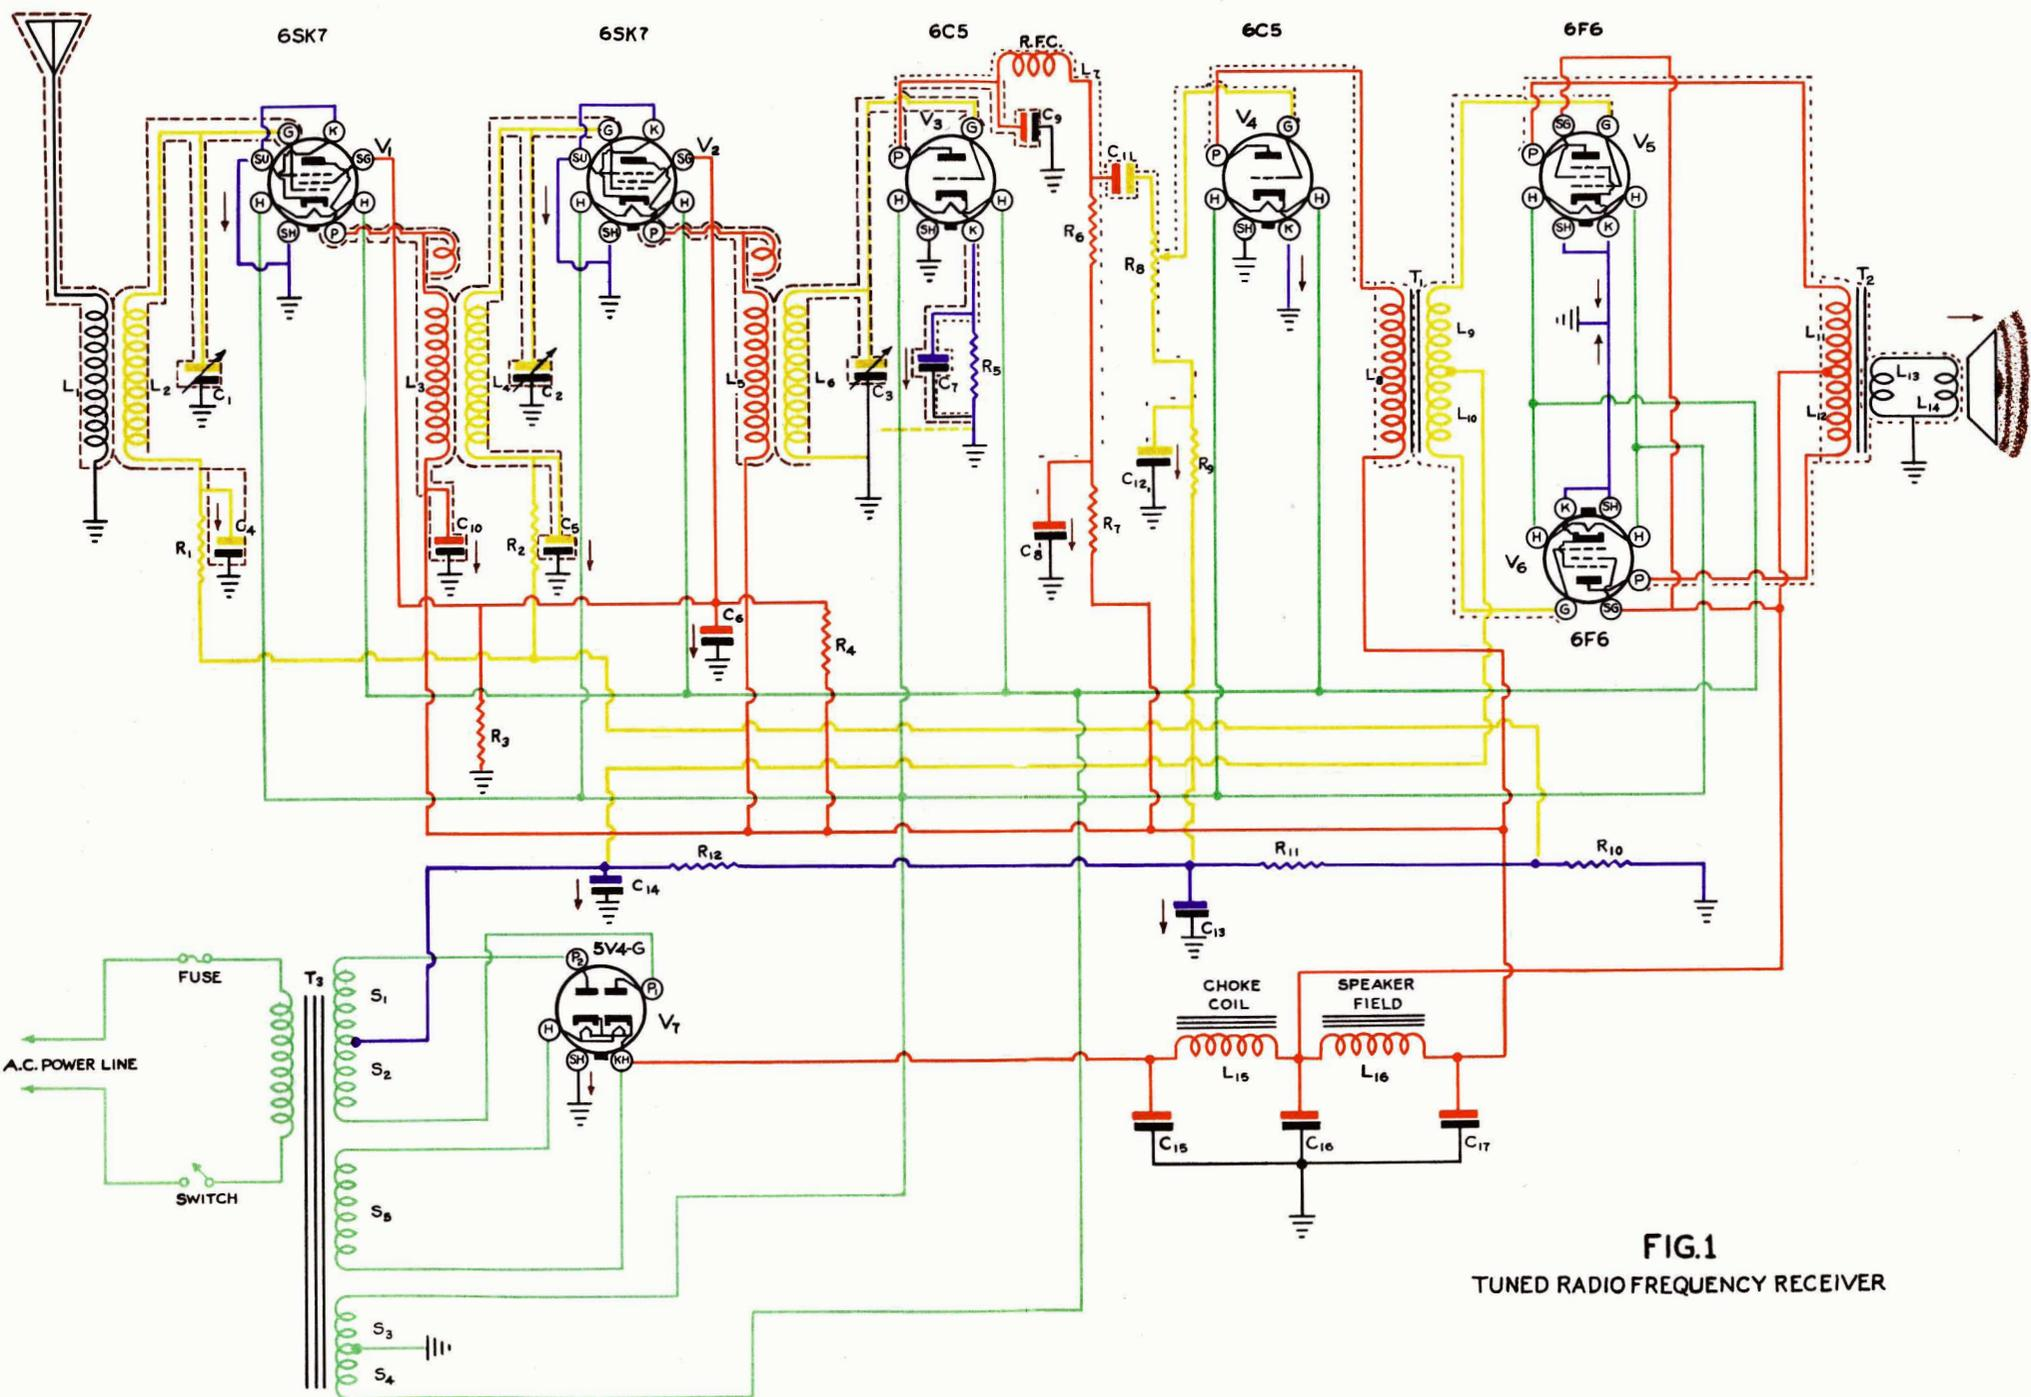
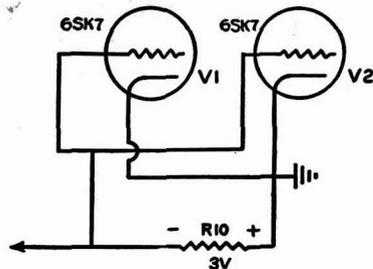
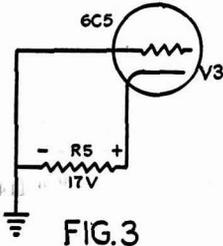

FIG.1
FIG. 2
FIG. 3
In any selective receiving circuit six elements are necessary. These are (1) an energy collector or antenna, (2) selective amplification of the R.F. carrier provided by the R.F. amplifier, (3) a detector to remove the R.F. carrier, (4) an audio frequency amplifier to build up the signal energy to operate a speaker, (5) a speaker to reproduce the sound and (6) a power supply to operate the various tubes of the system. All of these elements are included in the basic circuit shown in Fig. 1 in this lesson, and these are illustrated by use of a six color circuit.
in radio. So far as we know no other school has gone to the trouble and expense to provide this type of instruction for its students. The full and complete circuit is shown in Fig. 1 of this lesson which you will find in the center of the book, it being necessary to place it there because of the need for employing two full pages for its reproduction.
Since a multiple tube receiver must have a power supply the logical place to begin the study of the circuit of Fig. 1 is with the raw AC just as it is obtained from the power line. The power transformer T_3 , in Fig. 1, has a plug attached to its primary ends. This plug may be inserted into any 60 cycle power outlet such as is found in the usual home. In this way all operating voltages for the entire receiver are obtained. The leads of the primary include a switch and a fuse. The switch is operated by the control knob of the volume control R_8 . Thus, this control operates both switch and volume and this, incidentally, is more or less standard practice in the modern receiver of today. The fuse is included for the purpose of protecting the receiver from overloads and breakdowns of various receiver parts—it being much cheaper to replace a fuse than other more expensive parts in the receiver. For instance, condenser C_{15} may breakdown. This will form a short circuit across the output of the rectifier tube and may so overload it that the power transformer is, in turn, overloaded, and it may burn out due to this overload. When a fuse is included, however,
In the modern radio circuit, large capacity but small size electrolytic condensers are used for filtering the power unit circuit. The above view shows three such condensers which might well be used for C_{16} , C_{16} and C_{17} of Fig. 1. These are the nut and screw mounting type. Courtesy of Solar.
The high voltage secondary connects to the two plates of the 5V4-G rectifier tube. For maximum conditions this winding must supply 300 volts R.M.S. of AC each side of the centertap. This makes a total of 600 volts AC from plate to plate. This is the rating by the manufacturer for the type of rectifier tube being used. Actually, as is the case in many receivers, the maximum rated amount of current is not always drawn by the rectifier tube unless the load demands it. The rectifier filament winding in Fig. 1 should be rated at 5 volts and 2 amperes. Note it is a separate circuit from the other filament circuits. This is necessary because the filament and cathode are common or connected together within the tube. Since the cathode must be kept isolated from all other circuits except the input to the filter, the filament of the rectifier must not be grounded or be
Little technical knowledge is needed by the radio man in ordering a replacement power transformer for this or a similar receiver. If it was necessary to order one for the circuit of Fig. 1 all you would have to specify to your radio parts jobber would be a power transformer for a 5V4-G rectifier tube with a low voltage 6.3 volt secondary capable of supplying at least 2.6 amperes and a 5 volt rectifier filament winding rated at 2 amperes.
The above view shows a half-shell type of power transformer such as T_3 of Fig. 1. It is mounted from the top side of the chassis with the terminals extending through a hole in the chassis for convenient wiring underneath.
The use of color brings out the details of all the circuits in a radio schematic diagram. Study Fig. 1 carefully and note the green circuit is only a small portion of the entire circuit wiring. While this is true note also that the green or AC circuit is the basis for the entire operation of the receiver, and, if a defect occurs in it, the entire receiver will cease to operate.
The red circuit in Fig. 1 deserves careful study because it shows distribution of all *positive* DC voltages from the rectifier cathode up to the various tube elements and through the bleeder resistor R_3 to ground. The cathode circuits are also a part of the DC voltage circuit, but they are considered negative with respect to the plates and screen grids and are, therefore, indicated in another color (blue) and will be taken up later.
Calculations show that each half winding of the primary should have a DC resistance of 485 ohms. Note this is an exact calculated value. For practical conditions in an actual output transformer, one half of the primary winding will have slightly more resistance than the other half. For instance for one manufactured receiver using 6F6 push-pull tubes, the specifications show that one half of the winding should be 520 ohms and the other half 490 ohms. This is a difference of 30 ohms between half windings. Remember this represents practical conditions. For the purpose of this lesson and to simplify calculations, it is assumed that the primary winding of the output transformer T_2 in Fig. 1 has equal half windings of 500 ohms each (instead of the calculated value of 485 ohms as mentioned in the foregoing). Thus, if 500 ohms is accepted, there will be an approximate voltage drop across each half of the output
Resistor R_3 provides a path to ground for the positive screen grid voltage and is called the bleeder resistor. The current through it is 15 ma. and the voltage across it is 100 volts. Therefore, its value is equal to $\frac{100}{.015}$ or 6,666 ohms. The power rating for R_3 as well as all other resistors in this circuit is equal to $E \times I$ —that is the voltage drop across each resistance times the current through it will give the minimum watt rating for each resistor. There are several condensers across the B+ circuits in Fig. 1, and their function will be described further on in this lesson.
control grids is usually obtained in AC operated receivers. Where the resistor is in series with the cathode of a given tube, it is called a *self bias* system. Where most or all of the cathodes in a given receiver are directly grounded, as in the case of Fig. 1, resistors are connected in series with the B negative lead to provide bias voltage. In this case the cathode current of all tubes in the receiver are caused to flow through the resistors and this system is called a *fixed bias*. Fixed bias is essential for Class B or C amplifiers and is often used in Class A amplifier systems, as in Fig. 1. Tube V_3 , the detector, obtains its bias from the voltage drop across R_5 , and this is an example of the self bias system. Tubes V_1 , V_2 , V_4 , V_5 and V_6 employ the fixed bias system and obtain their bias voltages from across R_{12} , R_{11} and R_{10} , as will be explained. It has already been explained that the value of R_5 is 85,000 ohms and that a 17 volt drop occurs across it as a result of the .2 ma. plate current through the tube. Just how this voltage is applied to the control grid of the detector tube will be explained when the yellow circuit is described.
The fixed bias system is illustrated by R_{10} , R_{11} and R_{12} in Fig. 1. As in any full wave rectifier circuit, current must flow over the path of the centertap of the high voltage secondary. In flowing over this path, it must flow through resistors R_{10} , R_{11} and R_{12} . Therefore, if the values of these resistors are proportioned properly, correct voltage drops will occur across them for the control grids of the tubes. The grid returns of the various tubes must, of course, be
The average radio set employs several wire wound coils. In the above four typical examples are shown. At the left is a typical IF transformer used in the superheterodyne type receiver. Next is a typical RF antenna coil such as L_1 and L_2 of Fig. 1. The third coil is an unshielded RF choke coil such as L_7 in Fig. 1. The coil to the right is another RF coil of the unshielded type. It is usually mounted within a metal container before being used. Courtesy of Meissner.
however, this description treats it from a DC viewpoint with respect to how the various grids are operated. Later the AC or signal operation will be described. One cardinal point to remember when tracing the circuits of any radio tube is that the DC grid voltage for the tube is always equal to whatever voltage exists between the control grid and cathode of the tube. Likewise, that voltage existing between the plate and cathode is equal to the applied plate voltage. Thus, the cathode of the tube is always the reference point when measuring voltage applied to any other element of the tube. With this basic principle in mind, you are ready to consider the control grid circuits of Fig. 1. First consider the two 6SK7 tubes. A simplified circuit of the control grids is shown in Fig. 2. In this the RF coil windings and the two resist-
ors R_1 and R_2 have been *omitted*, it being assumed that they are conductive. This clearly shows how 3 volts are applied to the two control grids. Note the two control grids form one common circuit and the cathodes form another. Remembering that the voltage existing between control grid and cathode is the value of the applied control grid voltage, it is easy to see in Fig. 2 how the control grid voltage is applied. The left end of R_{10} is negative and the right end is positive. This makes the cathode positive and the control grid negative because the two tube elements connect to these polarities as established by the resistor R_{10} . Thus, it may be said the control grid is 3 volts negative and the cathode is 3 volts positive but with respect to each other only.
The next tube in the line up is the detector 6C5 and note it employs its own bias resistor in series with its cathode. A simplified circuit of it is shown in Fig. 3. Note in this case the cathode is still positive which makes the control grid negative just as in Fig. 2. Note, also, the ground connection has moved from the positive, as in Fig. 2, to the negative, as in Fig. 3. This is necessary because the V_3 tube employs its own cathode resistor, and if the cathode of this tube is to remain positive in relation to the control grid (the return of which
From a study of Figs. 1, 2 and 3, it should be clear to you that the metal chassis of the receiver is acting as a conducting path for a portion of all the grid circuits in this receiver. This, incidentally, is standard practice in the radio industry for most receivers. This is made possible by the fact that all circuits in a receiver at a zero or common *potential* can be made one common circuit. Take note here that zero or ground potential means that this part of the circuit does not have polarity *except with reference to some other definite point in the receiver*. Also, you should understand that no one part of the receiver circuit *need be grounded*. It can be grounded at any intermediate point between extreme positive and extreme negative. Once the ground point is established, however, proper polarity of all other parts in the receiver must be maintained especially if the receiver employs an actual ground connection as, for instance, to a cold water pipe. The reason for this is one side of the AC power line is grounded, and thus if an improper point in the receiving circuit is grounded it will short circuit the power supply of the receiver. For instance, if the cathode of the tube V_7 in Fig. 1 (or any other highly positive circuit) should become grounded to the chassis of the receiver, the entire
power transformer and rectifier tube would be sure to cause trouble. Thus, in Fig. 1 all DC voltages are either positive or negative in relation to ground or the metal chassis of the receiver.
Just how the chassis may be employed to act as a conductor for a portion of the grid circuits may be seen by referring to the Yellow Circuit of Fig. 1. Note for tube V_1 the DC control grid circuit begins at the tube socket and continues through the secondary of coil L_2 , through R_1 and R_{10} to ground. The cathode of the tube is directly grounded at the tube socket. Thus, one end of R_{10} is grounded and so is the cathode of the tube—but note these ground connections occur at two different points. Designers try to have these connecting points to the chassis occur as close together as possible. Actually, they may be from 2 or 3 to 12 or more inches apart. Regardless of how much distance is involved, the *metal chassis* of the receiver becomes the conducting medium to complete the circuit. In Fig. 1 the metal chassis completes the circuit between the cathode of tube V_1 and the grounded end of R_{10} . For tube V_2 a similar condition exists where the chassis completes the circuit between the cathode of this tube and the grounded end of R_{10} . For tube V_3 note coil L_6 is grounded and so is one end of R_5 . Thus, the chassis completes the circuit between these two points. For tube V_4 the circuit may be traced from the cathode of the tube via the chassis to R_{10} , through R_{10} to R_{11} and from this point through R_9 and R_8 to the grid of the tube. The resistors in the grid returns